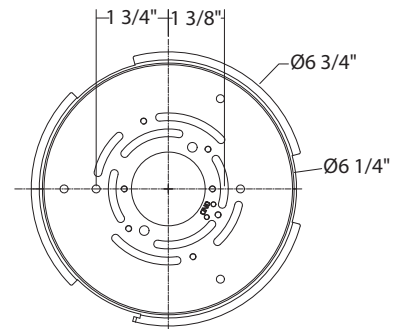
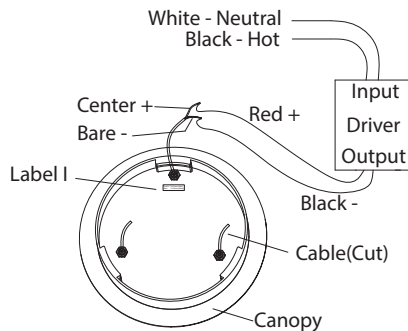

Fig.3 Driver Wires
Fig.2 Wiring
MOUNTING THE FIXTURE (Fig. 1 / Fig. 3)
- b) Due to limited space within the canopy, shorten the cable as necessary to make the installation easier. Make sure to identify and label all the wiring properly before any trimming/shortening (Fig. 3).
CONNECTING THE WIRES (Fig. 2 / Fig. 3)
6. Secure the safety cord to the bracket on the mounting backplate to hang the fixture temporarily in place and aid installation. Connect the driver's output wires to center cable as shown in Fig. 3, red to the center, and black to the bare, make sure that wire connectors(A) are secured. Then tuck them inside the canopy.
7. Connect the driver's input wires to junction box wires as shown in Fig. 2, make sure that all wire connectors(A) are secured. If your outlet box has a green or bare copper ground wire, connect the fixture's ground wire to it. Otherwise, connect the fixture's ground wire directly to the back plate using the screw provided. After wires are connected, tuck them carefully inside the junction box.